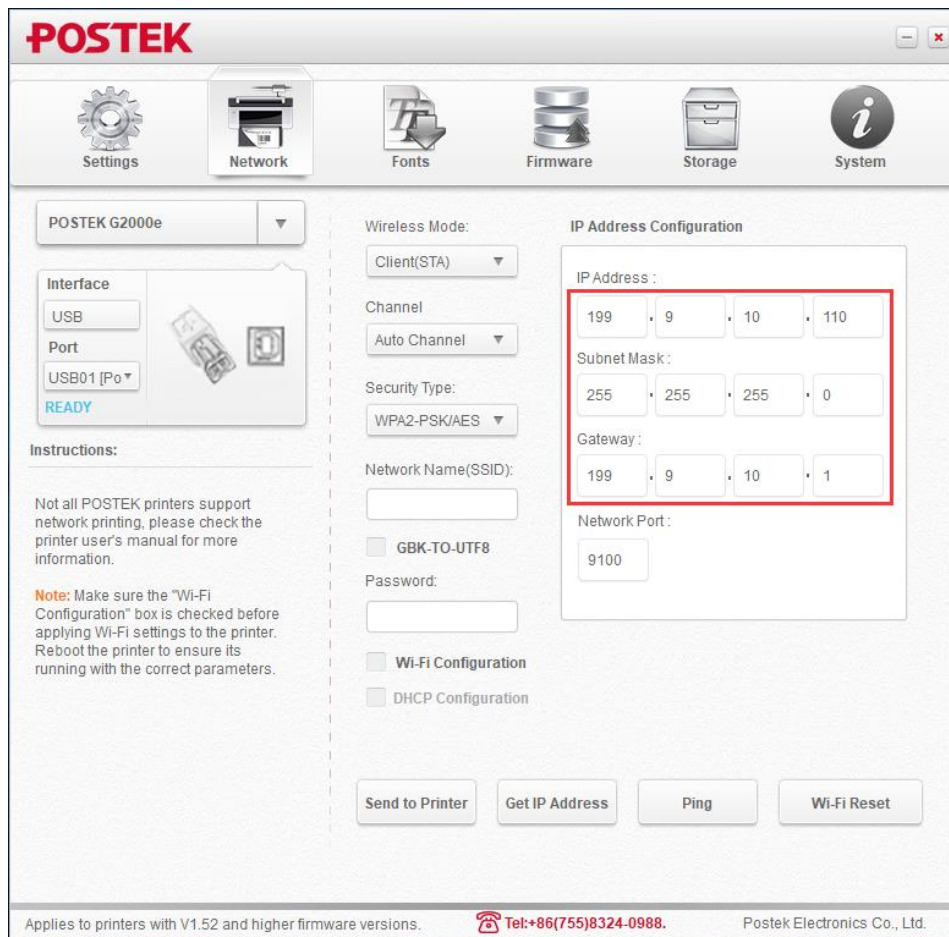

Figure 2-24 Configure the Network Parameters
5. Enter the "IP Address", "Subnet Mask", and "Gateway" (Note: the IP address here must be in the same network segment as the LAN, and the last figure of the IP address should be unique in the network group), as shown in Figure 2-24.